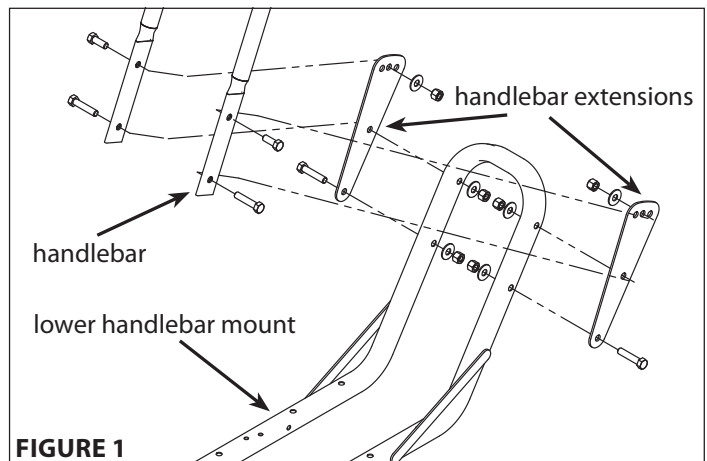

FIGURE 1
1. Locate handlebar extensions. (SEE FIGURE 1)